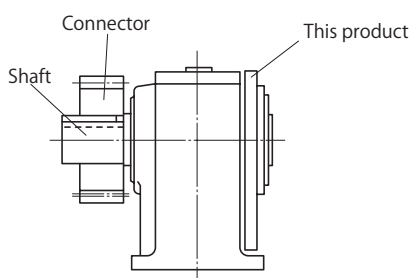

Figure 5-7
- The working load point of the sprocket or gear should go from the center of the shaft to this product. (See Figure 5-7)